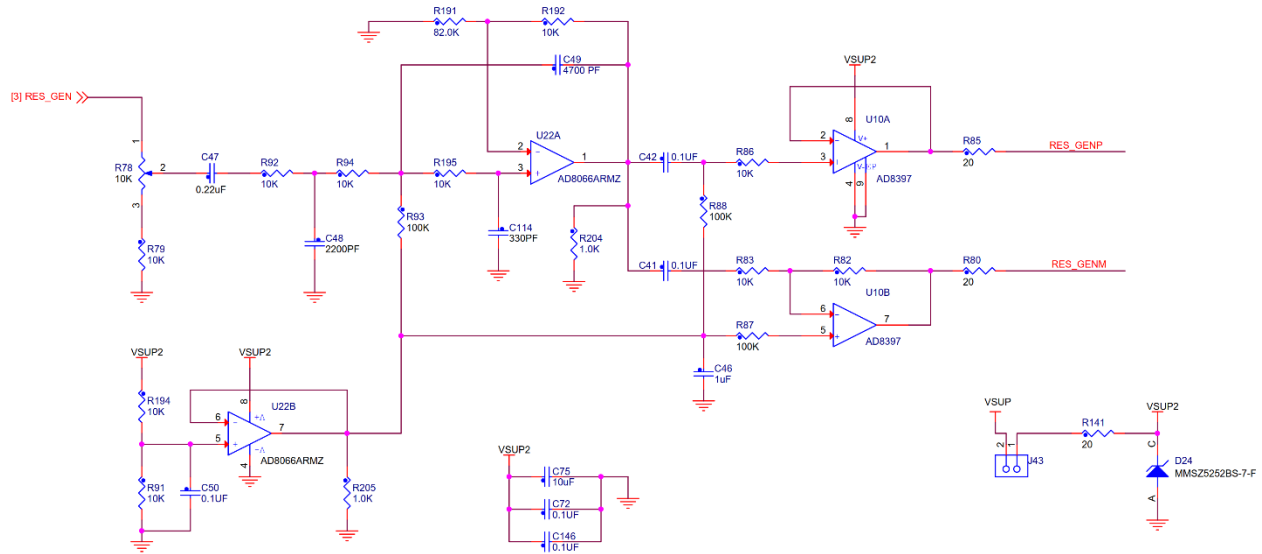
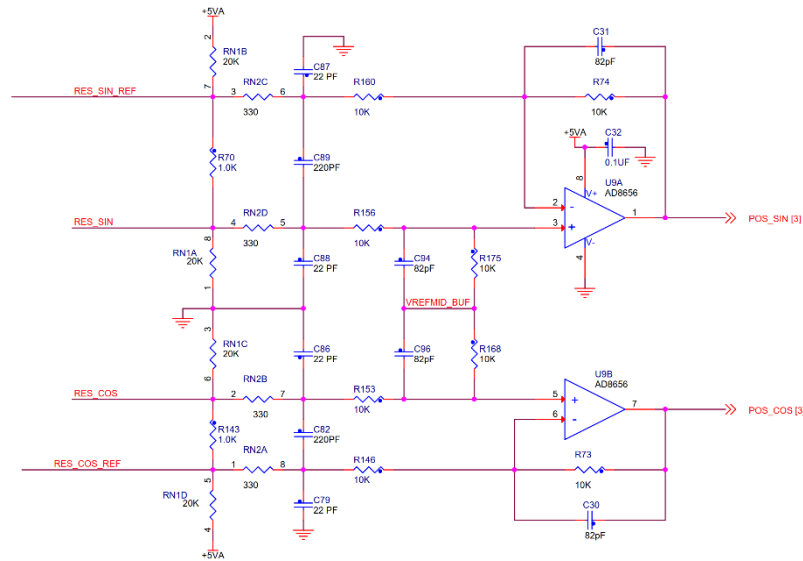

Figure 22. Resolver Driving Circuits
Figure 23. Resolver Sin/Cos signals conditioning circuits
- Resolver driving circuits, see Figure 22
- Resolver sin/cos signals conditioning circuits, see Figure 23
All values of the schematics component given in Figure 22 and Figure 23 are designed for 10 kHz resolver reference frequency (half of the usual motor control PWM frequency), resolver ratio 2:1. This interface might be adjusted in cases when reference signal frequency or the resolver transformation ratio is different. The gain of the resolver signal conditioning circuitry is unity and therefore the levels on the sin/cos signal inputs must have peak-to-peak amplitude up to the ADC reference voltage (with small headroom to avoid limiting).